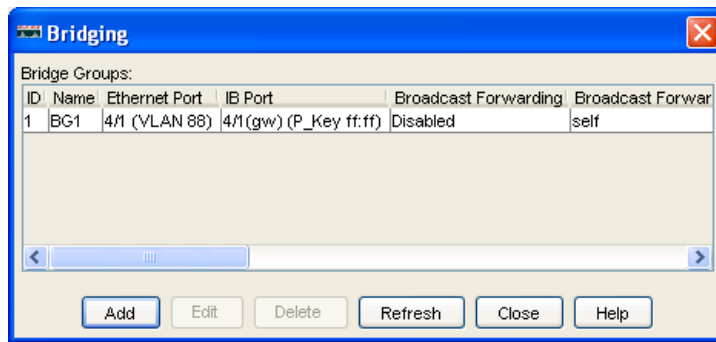

Figure 7-13 BG1 ready to use tagged packets on VLAN 88
- After you have configured all of the tabs of the Add Bridge Group window, click **Add** to create the new bridge group BG1 and make it active. Figure 7-13 shows the bridge group with tagged VLAN 88 selected and ready for use.